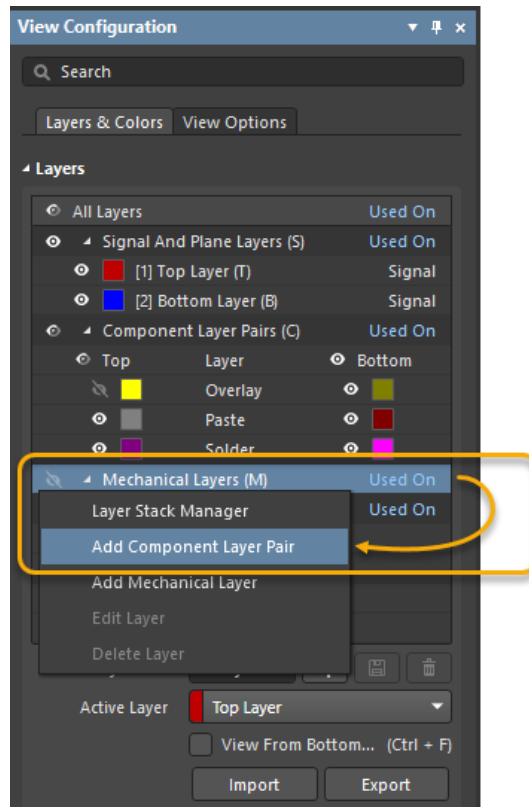

Figure 33. Add a Mechanical Layer Pair
48. **Right-click** anywhere in the *View Configuration* panel and select **Add Component Layer Pair**, see Figure 33 below.